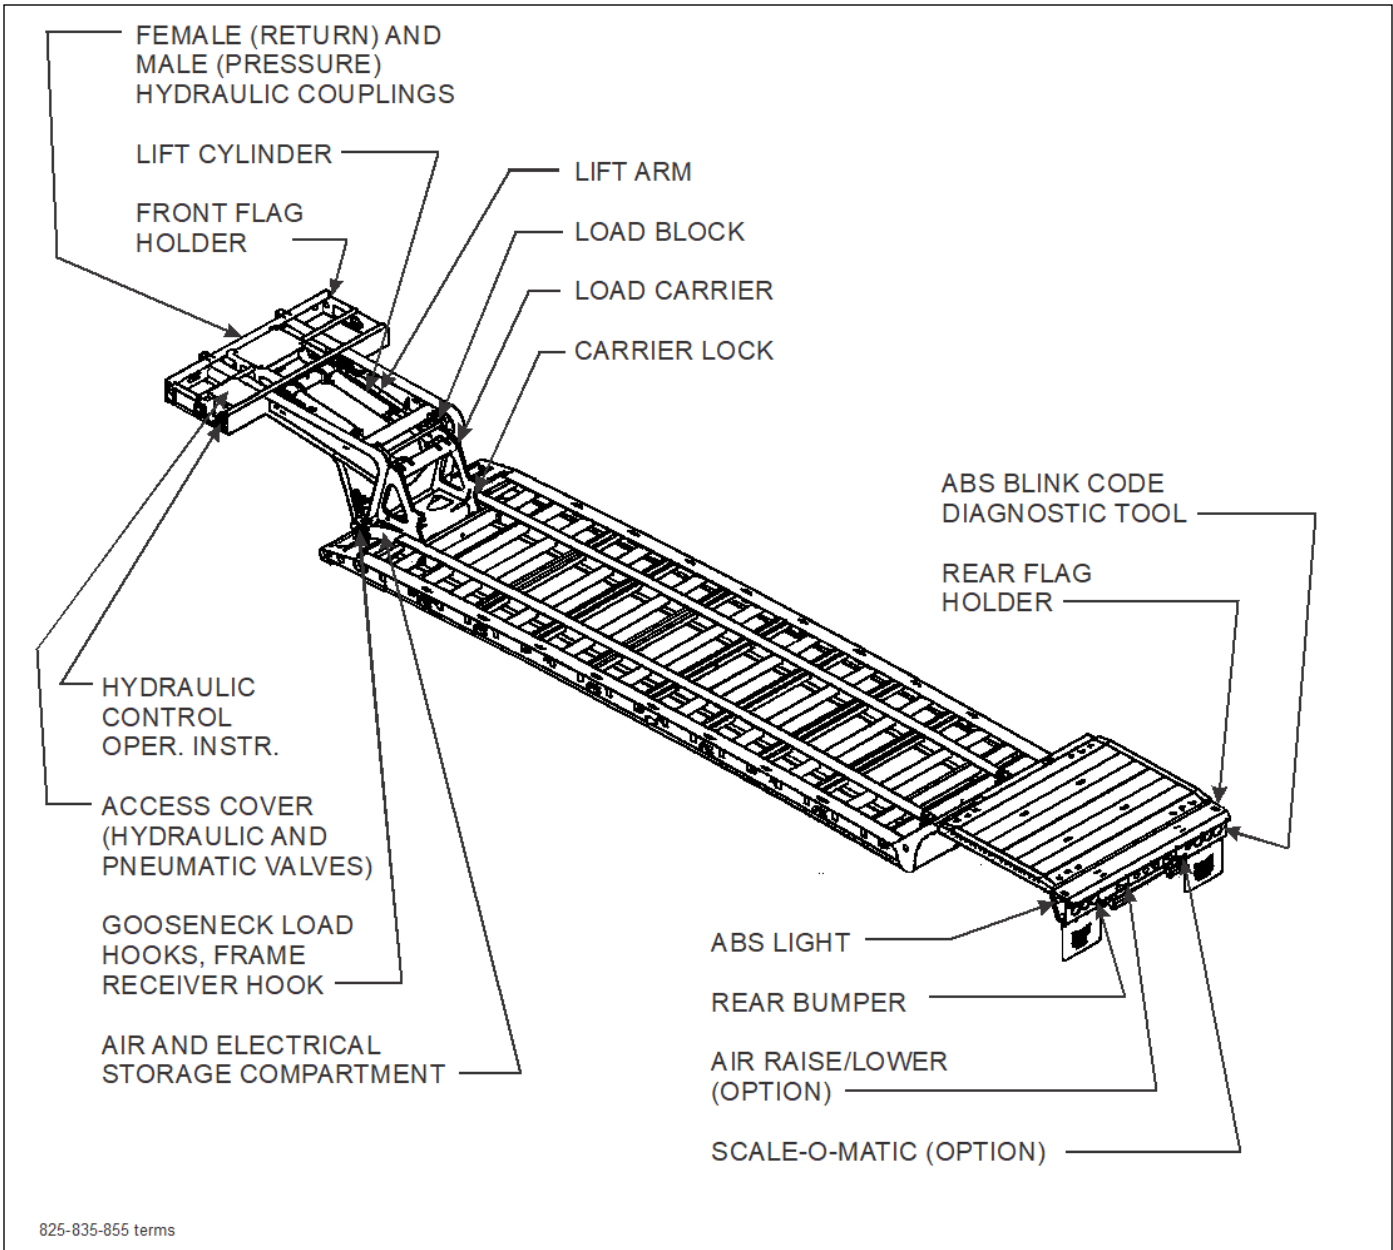

Figure 3-1: Trailer Terminology
This section supplies information for operation of the semitrailer. It describes and locates controls and gives general operation procedures. Read all instructions, warnings, cautions, and danger notes before attempting to operate the semitrailer. Operators must have proper training before operating the semitrailer. (See Figure 3-1 for location of semitrailer parts.)
2. Using the **TRAILER LIFT** lever, lift the trailer up until the load blocks can be lowered into position (**See Figure 3-1.**)
3. Activate the **TRAILER LIFT lever** “DOWN” until the semitrailer rests completely on the load blocks (**See “Trailer Lift Lever” on page 3-8.**) (**See Figure 3-1.**)
The **TRAILER LIFT lever (See Figures 3-1 and 3-3)** is located on the driver’s side of the gooseneck assembly. It is the middle lever and has three positions: